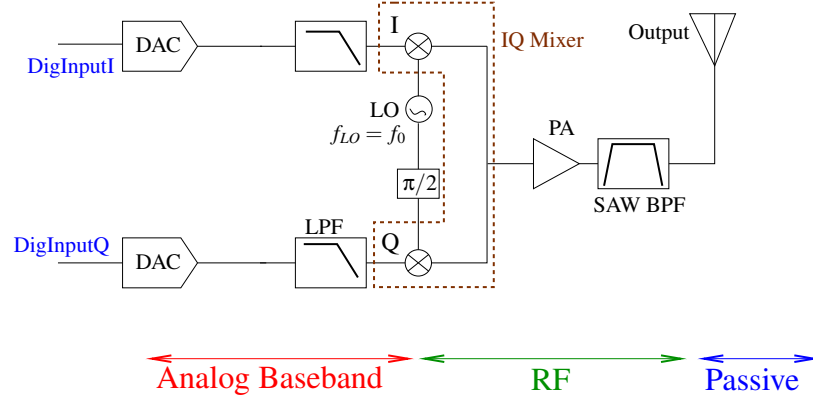

FIGURE 2 – TX block diagram
The block diagram of the TX system is shown in Fig. 2. It is an Inphase/Quadrature (IQ) Homodyne architecture. The I-path and Q-path are both composed of a Digital to Analogue Converter (DAC) followed by a low pass filter. The I-path and the Q-path will process respectively the real and the imaginary part of the baseband signal and therefore, each path will process a (unilateral) bandwidth of 10 MHz. The outputs of the two paths are upmixed to the central frequency of 2.4 GHz and combined (i.e. summed). After this reconstruction, the RF bandwidth will have a (bilateral) RF bandwidth of 20 MHz. A power amplifier (PA) follows the mixer/combiner to amplify the signal to the desired output power of 20 dBm.